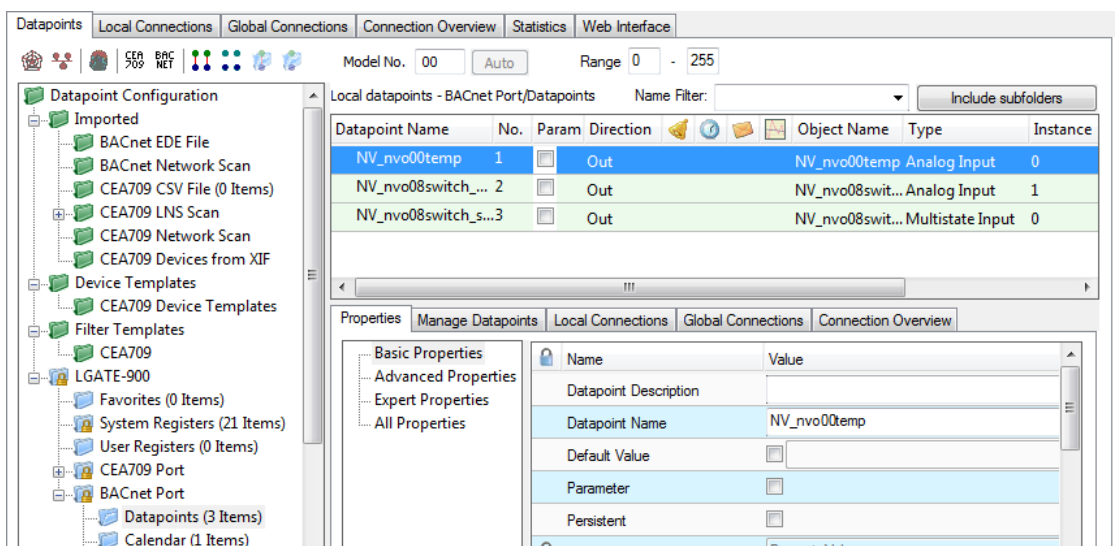

Figure 10: Auto-created BACnet Points in the BACnet Folder
11. The generated BACnet objects appear in the **Datapoints** folder under the **BACnet Port** folder as shown in Figure 10. These objects are also automatically connected to the respective NVs.